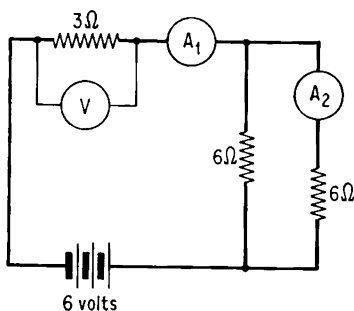

Fig. 77
26. If the voltmeter V has an extremely high resistance (Fig. 77) and the ammeters have very low resistances, what will be the readings in V , A_1 and A_2 ?